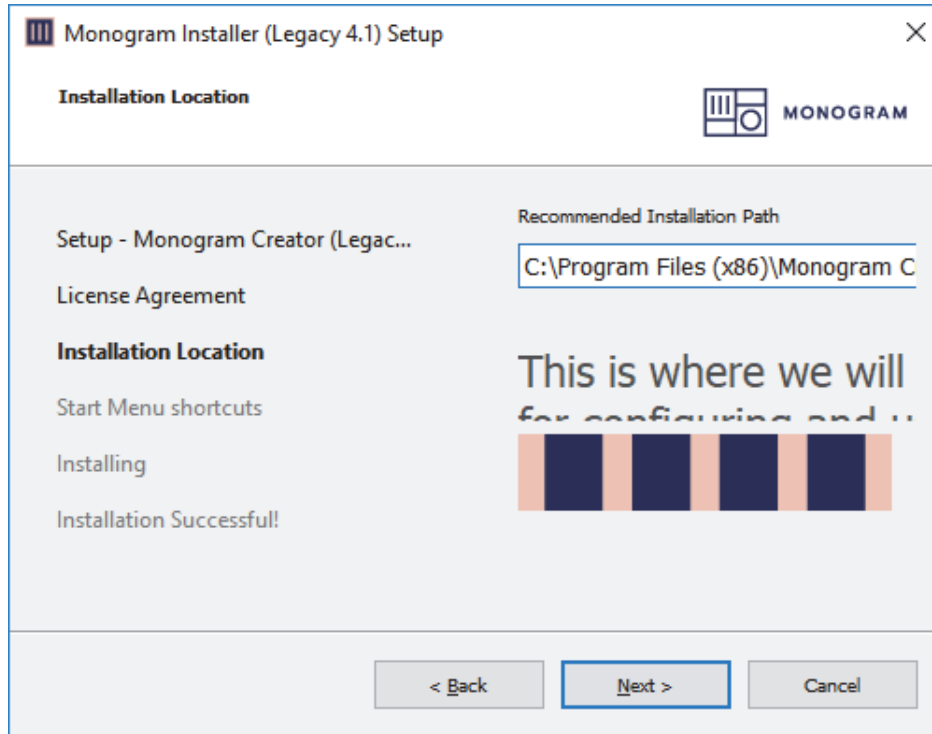

Figure 12 - Installation Location
7. Read the agreement, select the **Accept** option, and then click **Next**. The **Installation Location** dialog box appears (Figure 12).